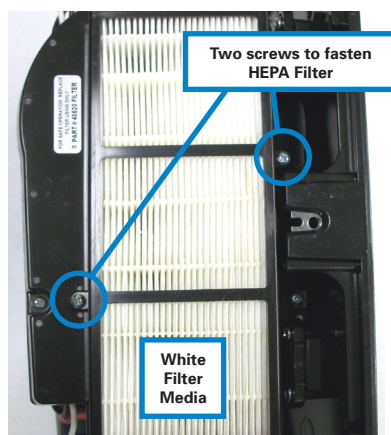

Figure 3-11
Step 3-11. Take the HEPA Filter (B) out of the clear sealed plastic wrap and insert the HEPA Filter as shown into the HEPA Filter Adapter (A).
DO NOT push on the white filter media. This can result in reduced performance and efficiency. The side with the foam gasket around the perimeter of the HEPA Filter should be placed into the HEPA Filter Adapter first. Position the filter so that the filter label is facing away from the wall. See (Figure 3-12). Fasten the HEPA Filter to the HEPA Filter Adapter with the **two (2)** control screws previously removed in Step 3-2. (Figure 3-11)